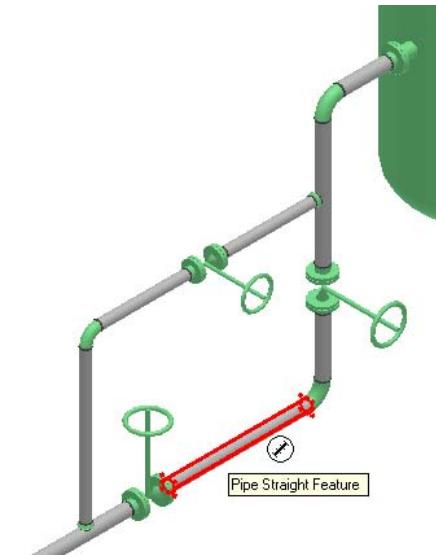

Figure 41: Pipe Straight Feature
24. Click on the active placement point of the pipe, as shown in Figure 41.